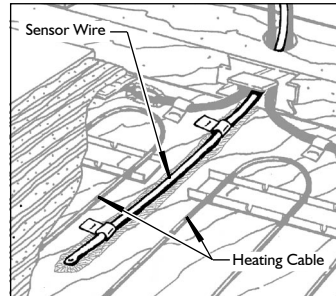

Fig. 2
- Pull sensor wire into ECB and secure to the floor. See Figure 2. The sensor must not cross or overlap any other cable on the floor AND must be embedded in the cementitious based mortar in the same manner as the heating cables.